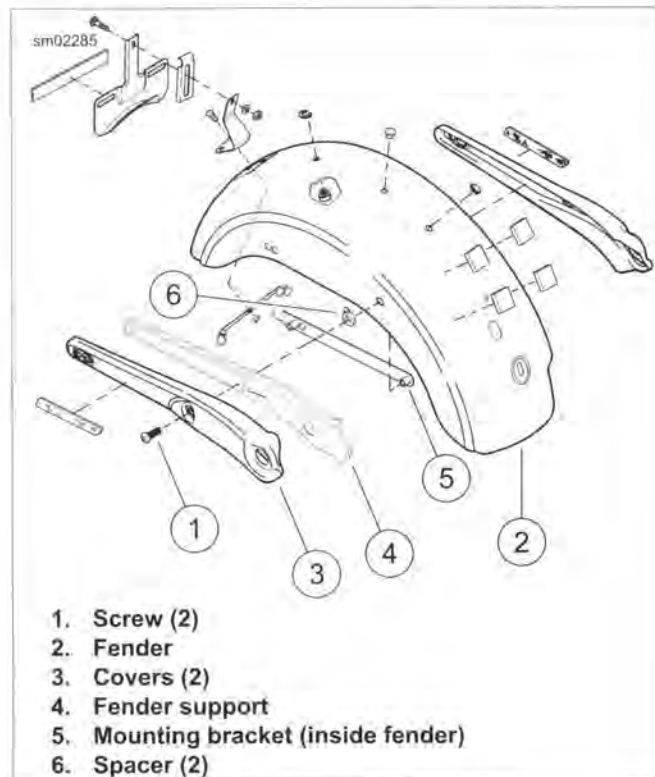

Figure 2-140. Rear Fender: FXDL
2. See Figure 2-140. Remove screws (1) and spacers (6) that hold fender in place and carefully remove fender and covers (3).
2. See Figure 2-140. Apply LOCTITE 243 MEDIUM STRENGTH THREADLOCKER AND SEALANT (blue) to the threads of screws (1). Place fender and covers (3) into position. Place spacers (6) into position and tighten screws (1) to 12-18 ft-lbs (16.3-24.4 Nm).